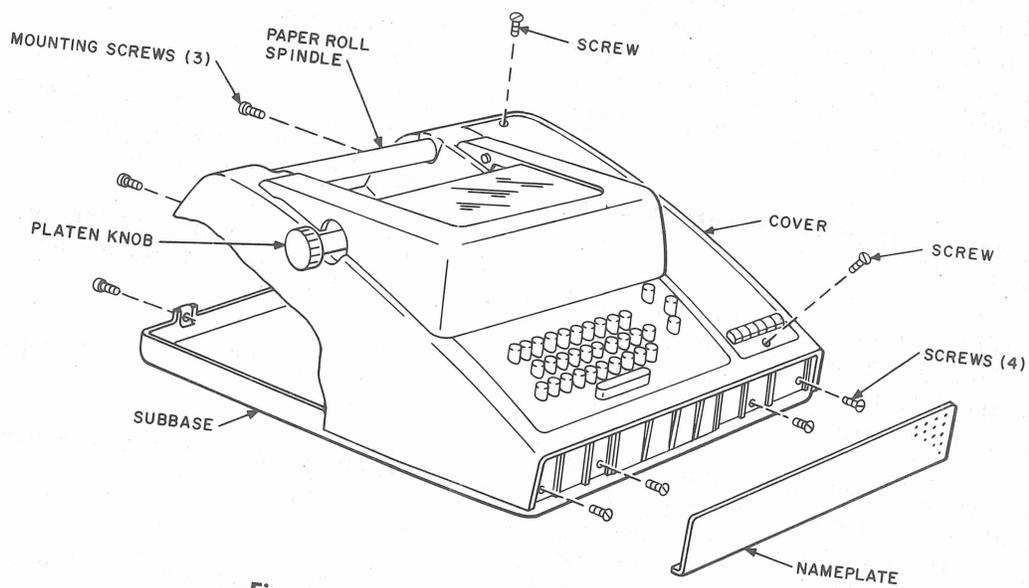

Fig. 6—33-Type TTY—Cover Removed
- (1) ◆ Remove paper and paper roll spindle (Fig. 6).
- (2) Remove two screws that secure the faceplate to the cover and remove faceplate by lifting vertically.
- (3) Remove platen knob by pulling it to the left.